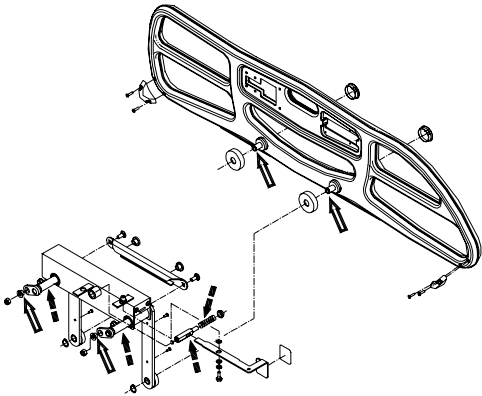

Figure 2.2B
Do not use cleaning solutions containing a degreaser near the siderail pivots (see figure 2.2B, page 11) to avoid deteriorating the properties of the grease used to ensure a smooth movement of the siderails.
- ___ The siderail plungers and plunger springs (see fig. 2.2B, page 11).
- ___ The siderail arm glide rods (see fig. 2.2B, page 11).
- ___ The siderail shafts and transfer plate sleeves (see fig. 2.2B, page 11).